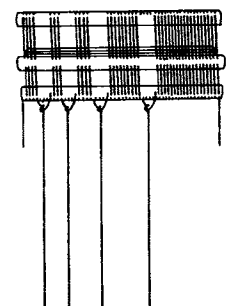

Figure 5
() The final tank coil is mounted on the two feedthrough insulators as shown in Pictorial 4. Straighten all coil leads as shown in Figure 5. Insert the outside coil leads through the inside hole of the lug and draw the coil close into the insulator. Wrap the excess wire around the lug and avoid covering the end hole which is used for additional connections (NS). This coil should be aligned parallel and approximately 5/8" in from the panel edge of the chassis.